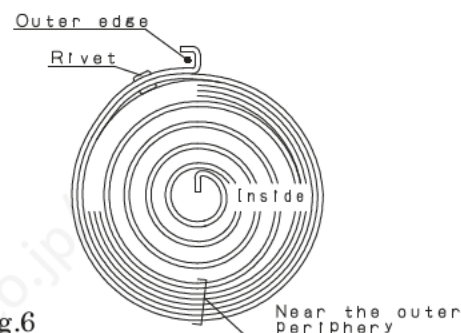

Fig.6
Reassemble the cover (17) to drum (11), then contact to the store. (see Fig.6)
7) Remove spring (13) from drum (11).
Never remove Spring (13) from Drum (11) when Spring is broken near the outer periphery or the rivet of Spring is broken (see Fig.6).